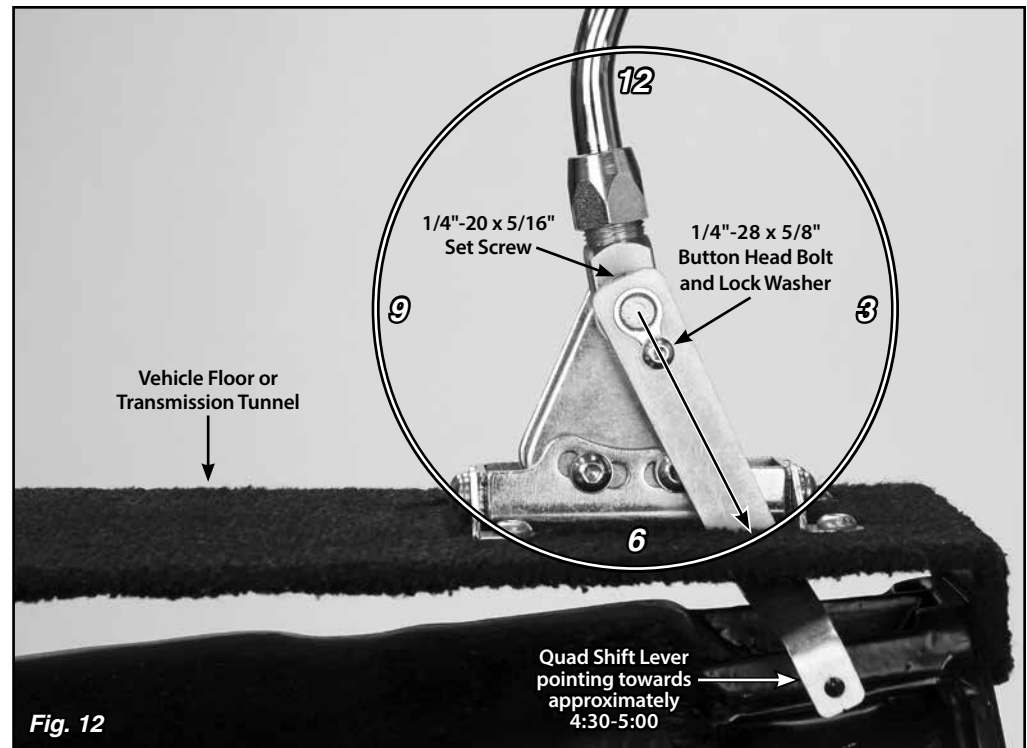

Fig. 12
**Step 17:** Make sure the shifter lever is in the Park position. Temporarily place the quad shift lever in position on the quad lever bushing as shown in Fig. 12. Check for interference with the driver side rear floor mount tab or the vehicle floor. With the shifter lever in Park, you want the quad shift lever to be as close to the 4:30 – 5:00 position as the floor mount tab will allow, without the quad shift lever touching the floor mount tab or floor.
With the quad shift lever in position on the quad lever bushing, install the 1/4"-28 x 5/8" button head bolt and lock washer into the bushing, and tighten with a 5/32" Allen wrench. Fig. 12